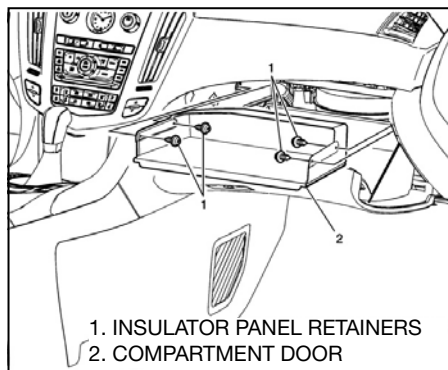

Fig. 27
2. Remove instrument panel insulator panel retainers and panel (see Fig. 27).